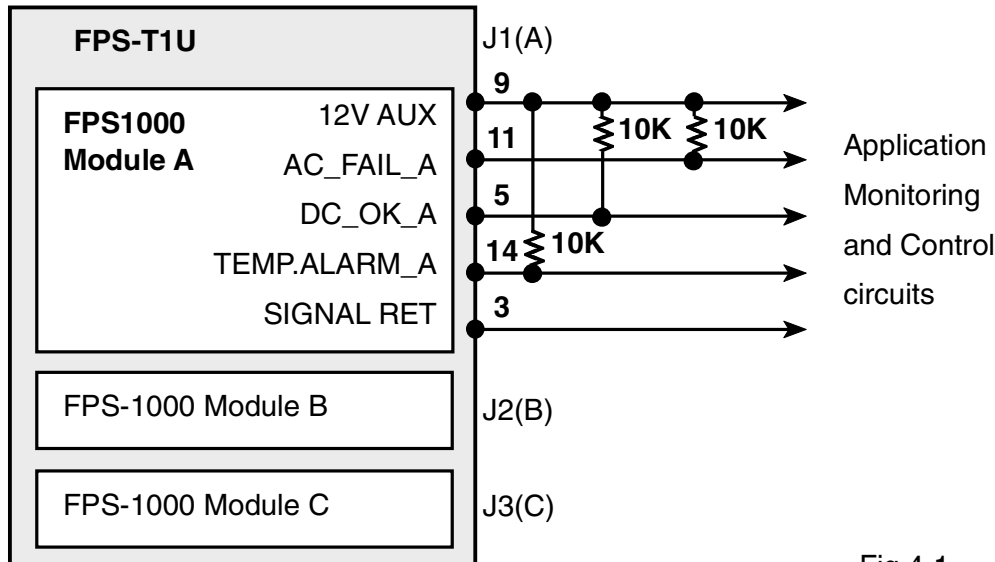

Fig 4-1
Signals are accessible at the J1(A), J2(B), J3(C) connectors on the rear panel of the rack. Fig 4-1 shows typical connection for FPS1000 unit 'A' inside the rack. Units 'B' and 'C' connections - Refer to Table 1.